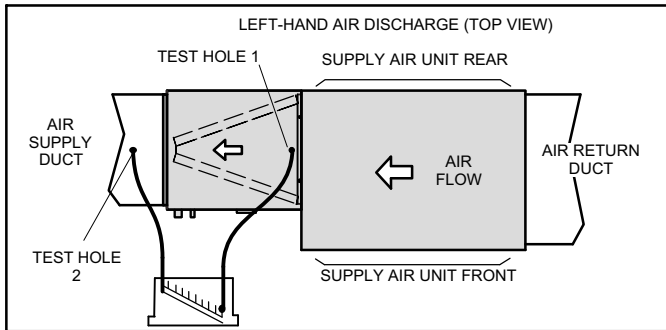

Figure 15. Static Pressure Test
A static pressure reading must be taken to see if the pressure drops are within the proper range. See figure 15 to see for an example to obtain an accurate reading.
To ensure accuracy, test the air on both sides of the coil (figure 15 exemplifies the two test hole locations).
1. Drill a 5/16" (8 mm) test hole in the coil case 1" from the furnace flange (figure 15, test hole 1).
2. Drill a 5/16" (8 mm) test hole into the air supply duct connected to the coil. (test hole 2 in figure 15).